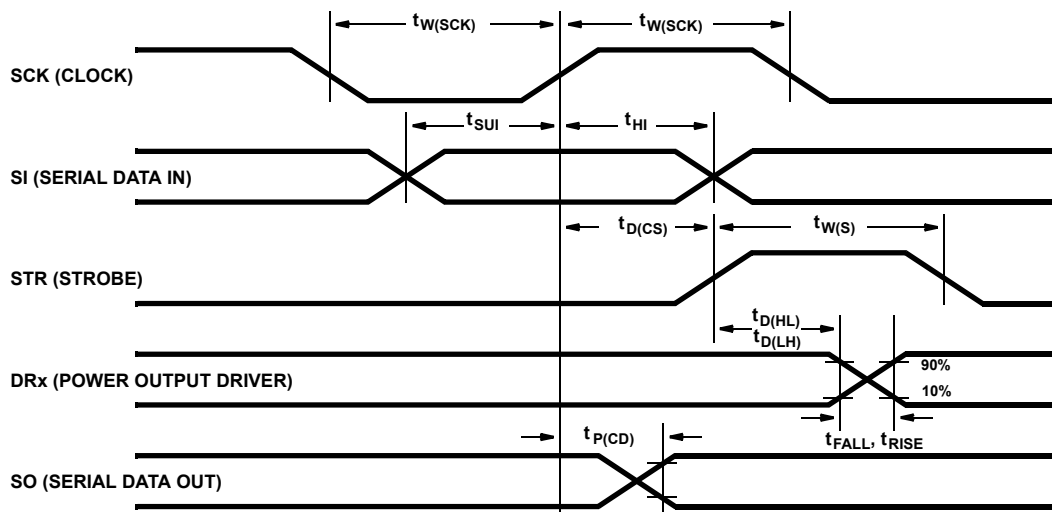

FIGURE 1. LOGIC TIMING CONTROL WAVEFORMS
SERIAL DATA CLOCK (SCK) (Refer to Figure 1 for Waveform Detail)
SERIAL DATA IN (SI) (Refer to Figure 1 for Waveform Detail)
SERIAL DATA OUT (SO) (Refer to Figure 1 for Waveform Detail)